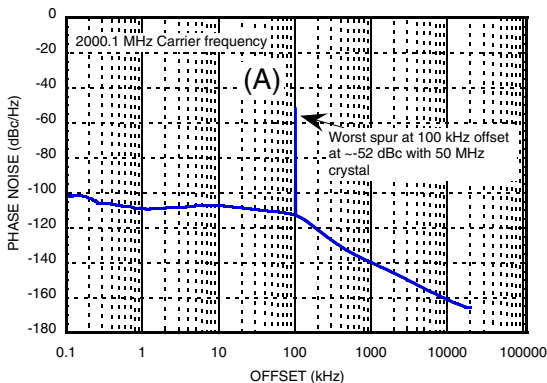
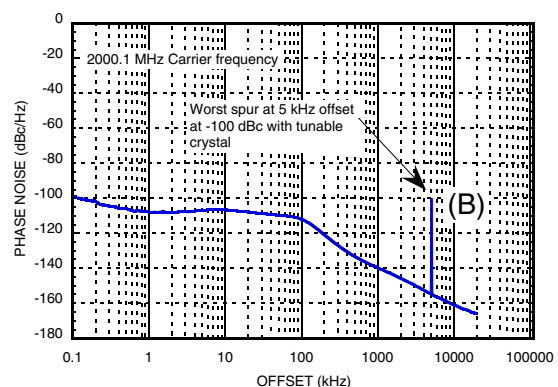
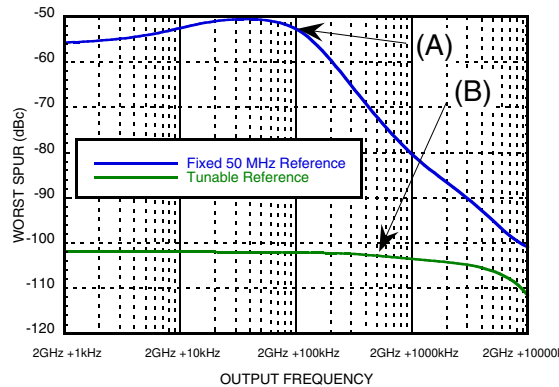

Figure 35. HMC834LP6GE Worst spur at any offset, fixed 50 MHz reference, output frequency = 2000.1 MHz
Figure 36. HMC834LP6GE worst spur at any offset, tunable reference (HMC830LP6GE), output frequency = 2000.1 MHz
Figure 37. Largest observed spurious, at any offset, using a fixed 50 MHz reference source and a tunable reference source.
For example, Figure 35 shows the spectrum of a carrier operating at 2000.1 MHz with a 50 MHz fixed reference. This case is 100 kHz away from an Integer Boundary (50 MHz x 40). Worst case spurious can be observed at 100 kHz offset and about -52 dBc in magnitude.
Figure 36 shows the same HMC834LP6GE PLL VCO operating at the same 2000.1 MHz carrier frequency, using a tunable reference at 47.5 MHz generated by HMC830LP6GE. Worst case spurious in this case can be observed at 5 MHz offset and about -100 dBc in magnitude.
The results of Figure 35 and Figure 36 show that the tunable reference source achieves 50 dB better spurious performance, while maintaining essentially the same phase noise performance.
Many spurious measurements, such as the ones in Figure 35 and Figure 36 can be summarized into a single plot of worst case spurious at any offset vs. carrier frequency as shown in Figure 37. A log frequency display relative to the 2000 MHz fixed reference Integer Boundary was used to emphasize the importance
For example worst case spurious operating at 2000.1 MHz (point (A)) in Figure 35 with a fixed 50 MHz reference) is represented by a single point in Figure 37 (point (A)) on the blue curve. Similarly, worst case spurious from Figure 36 with variable reference, operating at 2000.1 MHz is represented by a single point in Figure 37 (point (B)) on the green curve.
The plot in Figure 37 is generated by tuning the carrier frequency away from Integer Boundary and recording the worst case spurious, at any offset, at each operating frequency. Figure 37 shows that the worst case spurious for the 50 MHz fixed reference case, is nearly constant between -51 dBc and -55 dBc when operating with a carrier frequency less than 100 kHz from the Integer Boundary (blue curve). It also shows that the worst case spurious rolls off at about 25 dB/decade relative to 1 loop bandwidth. For example, at an operating frequency of 2001 MHz (equivalent to 10 loop bandwidths offset) worst case spurious is -80 dBc. Similarly, at an operating frequency of 2010 MHz (equivalent to 100 loop bandwidths) worst case spurious is -100 dBc.
In contrast, the green curve of Figure 37 shows that the worst case spurious over the same operating frequency range, when using an HMC830LP6GE tunable reference, is below -100 dBc at all operating frequencies!